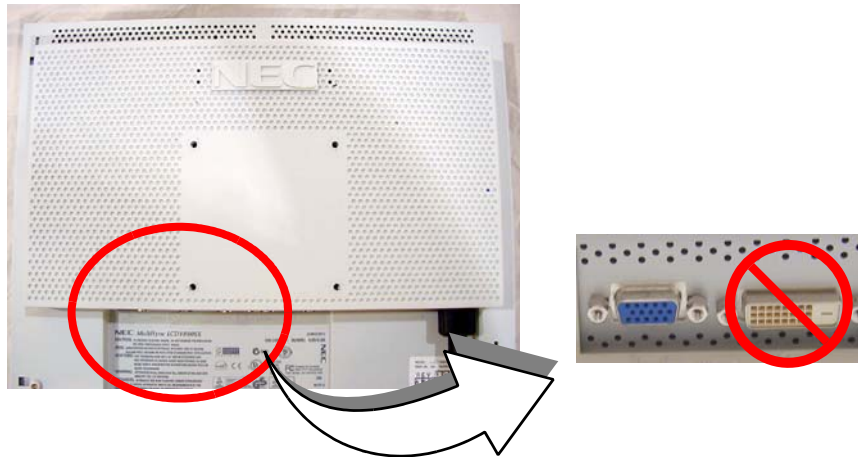

Figure D-13 Image Monitor (Your actual monitor may appear different from picture.)
- 2.) With the monitor and computer switched off, remove the video cable from the back of the image monitor. See Figure D-13. (The monitor shown below may appear different from the one you have.) Remove this cable from the HP computer video connector. Discard this cable. If the